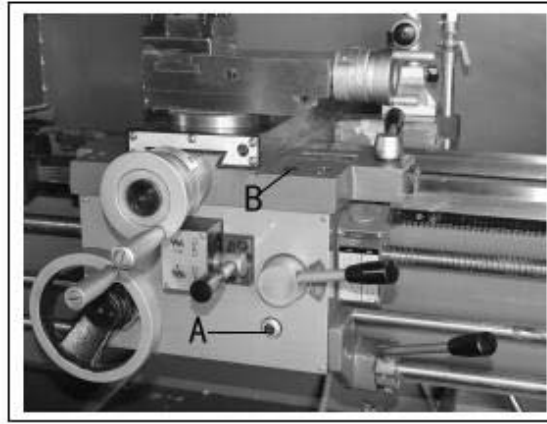

Figure 7
3. **Apron** – Oil must be up to indicator mark in oil sight glass (A, Fig. 7). Top off with Mobil DTE® Oil Heavy Medium. Remove oil cap (B, Fig. 7) on top of apron to fill. To drain, remove drain plug on bottom of apron. Drain oil completely and refill after the first month of operation. Then, change oil in the apron annually.